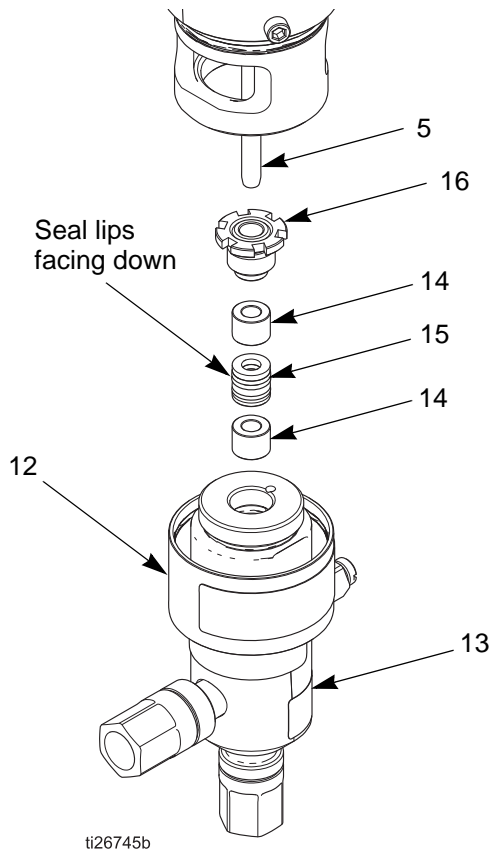

**FIG. 7 Remove fluid cylinder**
3. Loosen, but do not remove, the packing nut (16).
4. Remove the fluid cylinder (13) from the middle section. See FIG. 7
5. Carefully slide the fluid cylinder (13) away from the air motor housing (1), taking great care to keep the fluid plunger (5) from contacting any metal surfaces. The fluid plunger (5) will stay attached to the air motor during repair. See FIG. 7 and FIG. 8.